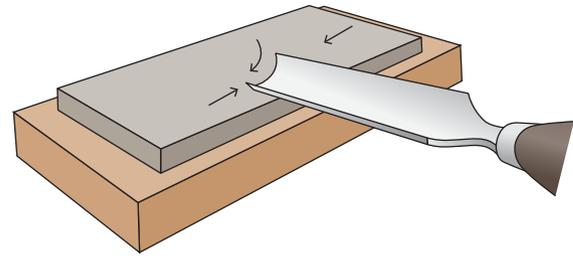

Figure 8.61 Sharpening outside of gouge blade on oilstone; inside is honed with oilstone slip
- 9 Sharpen paring and turning gouges with a rolling movement on a flat oilstone, and hone the inside of the blade with an oilstone slip (Figure 8.61).